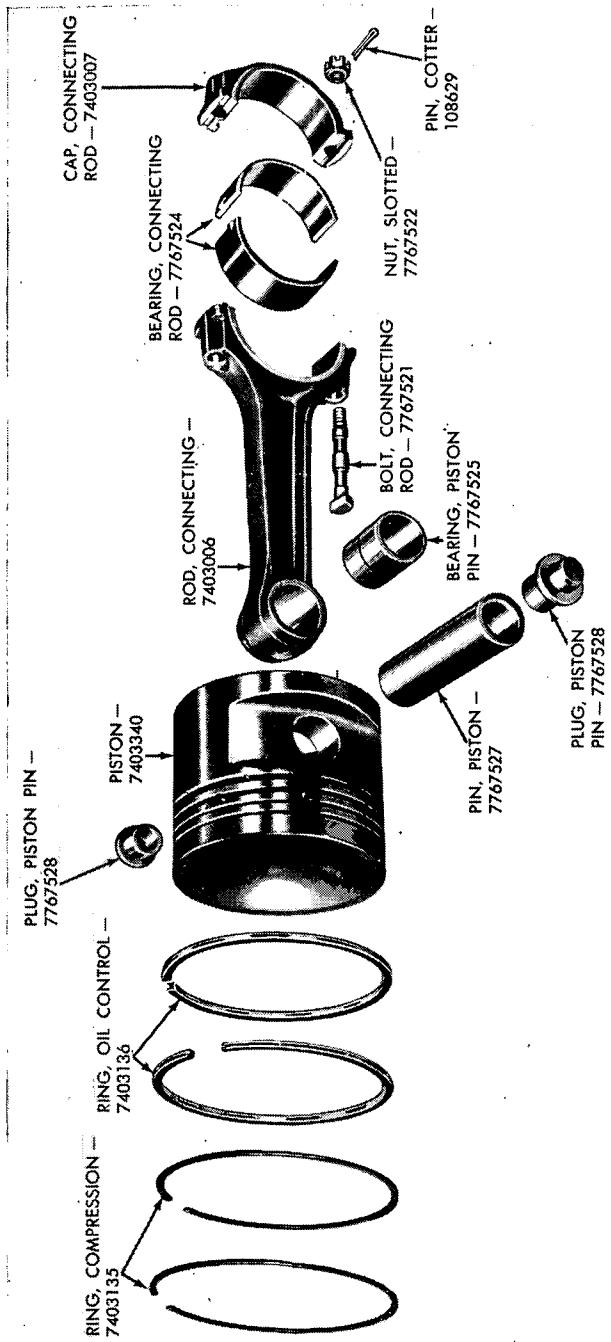

Figure 64. Connecting rod and piston—exploded view.
- b.* Remove the cotter pins and slotted nuts from the connecting rod bolts (fig. 64). Loosen and remove the connecting rod caps. Remove the rods and bearings from the crankshaft. If necessary, the caps can be loosened by tapping gently with a soft hammer.